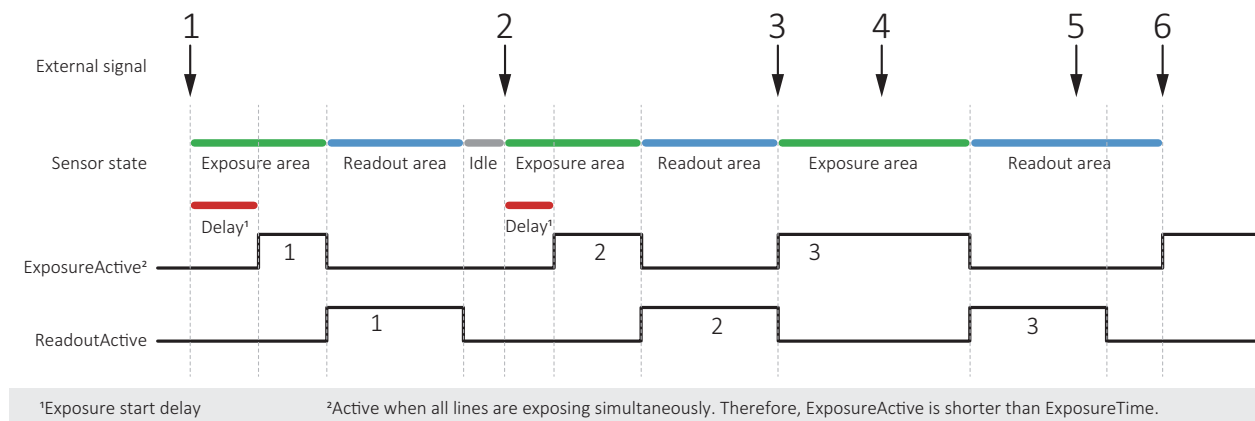

Figure 68: Triggering rolling shutter (RS) cameras
This section describes triggering behavior for **1800 U-500m/c, U-501m NIR, U-1240m/c, and U-2050m/c** cameras with rolling shutter (RS) sensor. Figure 68 shows how an external signal triggers exposure and readout for cameras with rolling shutter (RS) sensors. Like for global shutter (GS) sensors, readout has a constant duration, acquisition must be active to enable exposure, the end of exposure starts readout.